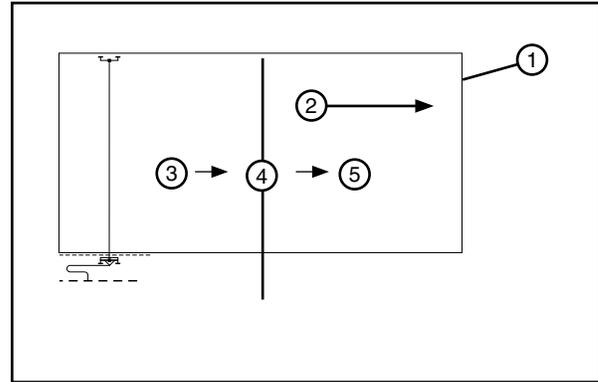

Figure 37-1 1. Field 2. Direction of Travel 3. Wet 4. Stop 5. Dry
1. The percentage timer is set at the desired application rate and the system is started at one end of the field and run wet (irrigating) to the middle of the field. See Figure 37-1.
2. The system is stopped, the percentage timer is set to 100% and the system is run dry to the other end of the field. See Figure 37-1.